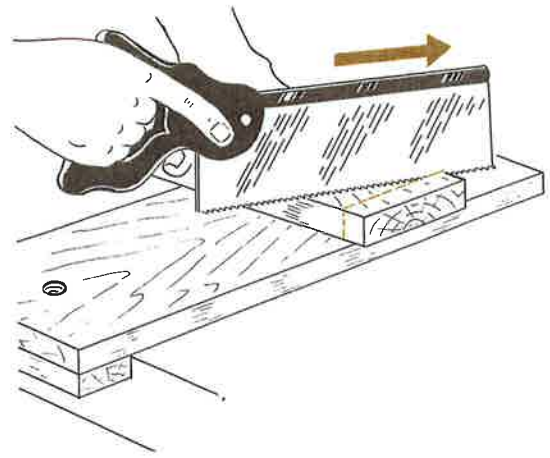

Fig. 10-18. Sawing a board to length with a backsaw on a bench hook.
3. Cut off the extra lumber with a cross-cut saw or a backsaw. Figure 10-18 shows how you can make this cut with a backsaw on a bench hook.